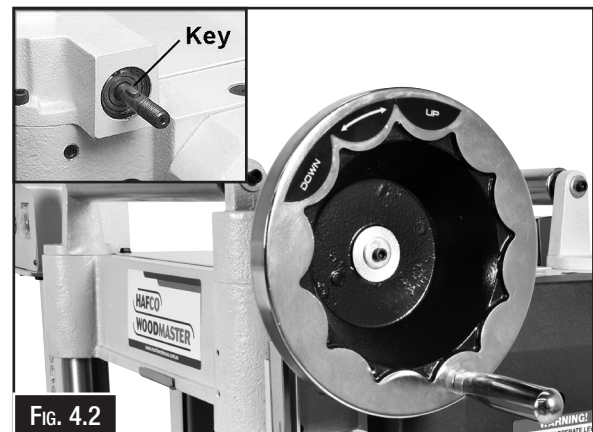

FIG. 4.2
1. Place the key into the slot on the shaft (Fig. 4.2) and mount the hand wheel to the shaft, making sure it is oriented so that it slips over the key.